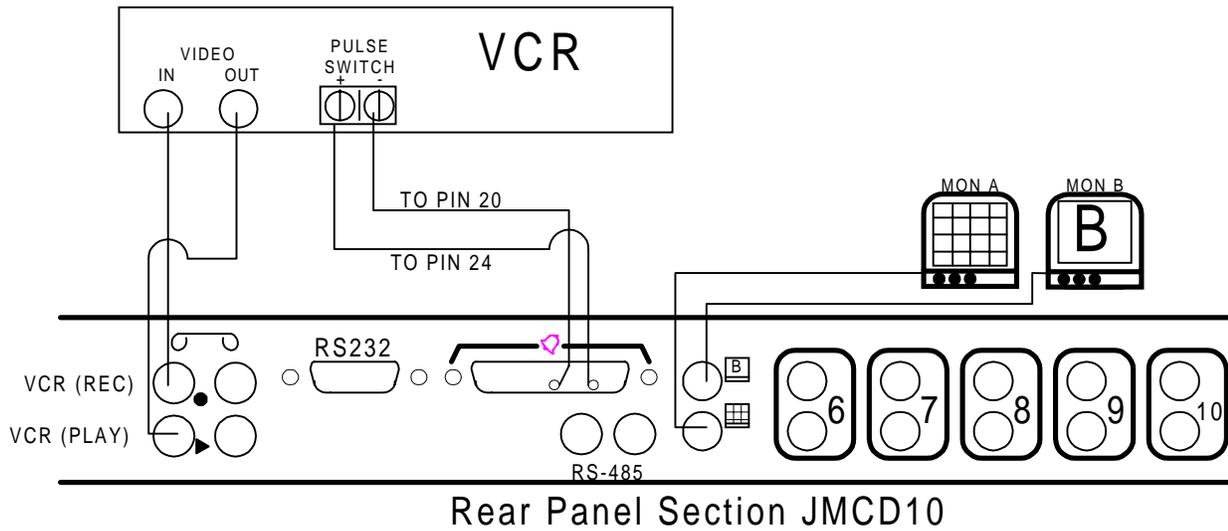

Figure 4.1 Connecting VCR - JMCD10
- 3.1 For Simplex recording, connect the record output (S-VHS or the BNC) on the rear panel to the VCR's video input. Connect the play input (S-VHS or the BNC) on the rear panel to the VCR's video output. This setup allows the operator to record all cameras unless the VCR is being used for playback. See figure 4.1 or 4.2 depending on model. For Duplex recording, refer to paragraph 3.2
- 4.1 **YOU MUST CONNECT THE VCR SWITCH PULSE** to the unit's DB-25 pin connector. This will synchronize the VCR head switch pulse and the multiplexer frame capture rate. This will ensure proper recording. **If this connection is not made** the playback of a recorded tape will be unreliable and video will be sporadic. Connect the switch pulse out from the VCR to pin 24 on the DB-25 and the common of the switch pulse to pin 20. If the multiplexer accepts the connection from the VCR, a record speed indication in the upper right side of the video on monitor "A" will show (R EXT). See figure 4.1 or 4.2 depending on model. **If you see unreliable or sporadic video reference Appendix A.**